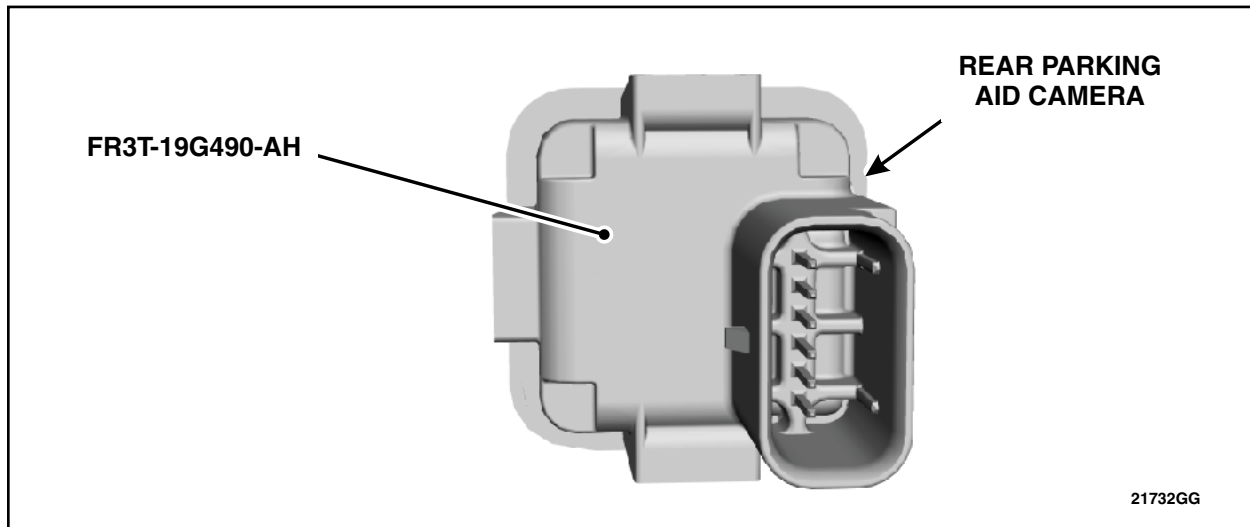

FIGURE 1
4. With the rear parking aid camera out of the vehicle, inspect the engineering part number on the back of the camera. See Figure 1.